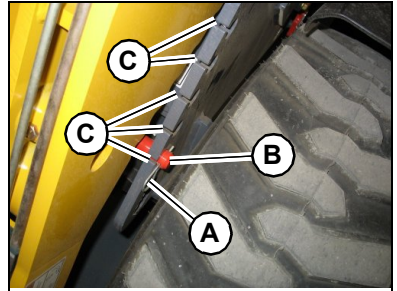

Figure 42 – Lift Arm Down-Stop
2. Position the lift arm above the down stop hole (C, Fig. 42) position where you want to limit travel, and also high enough to allow removal of the down-stop lock bar (B).
4. Remove the lock pin (A), and pull the lock bar (B) from the machine.
5. Slide the lock bar (B) all the way through the desired down-stop holes (C).
6. Replace the lock pin (A) into the lock bar.